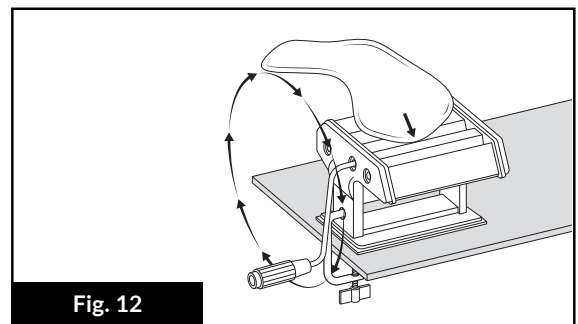

Fig. 12
6. **Cut Noodles:** Run dough through the noodle cutter. Rotate the dough through to create noodles (**Fig. 12**).